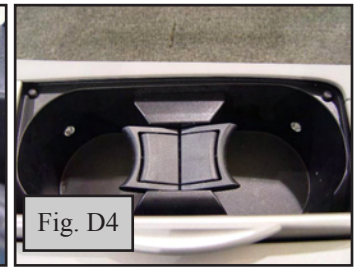

Fig. D4
3. Insert Lens from inside of cup holder. (Fig. D4)